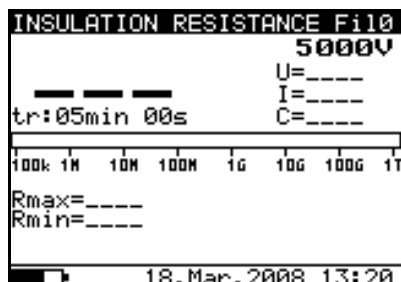
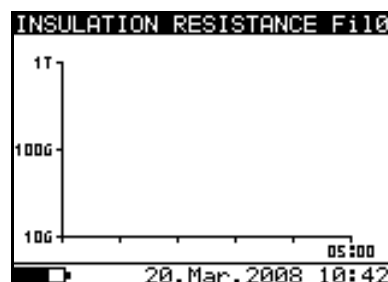

Fig. 16: Initial numerical screen
Fig. 17: Initial graphical screen
2. Select with arrow keys ▼ or ▲ the item “INSULATION RESISTANCE” on main menu and confirm with **SELECT** key. The screen of Fig. 16 is shown by the meter. In case of activation of Graphic R(t) option press arrow keys ▼ or ▲ to select the graphical screen of Fig. 17